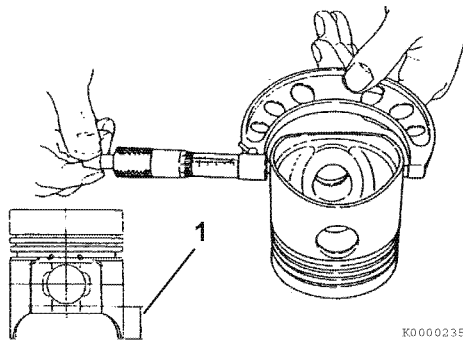

Figure 6-68
4. Measure the diameter of the piston skirt at 90° to the wrist pin bore as shown (**Figure 6-68**). Measurements must be taken at a specified distance (**Figure 6-68, (1)**) from the bottom of the piston, based on engine model. Record the measurements. See *Piston* on page 6-10 for specifications.